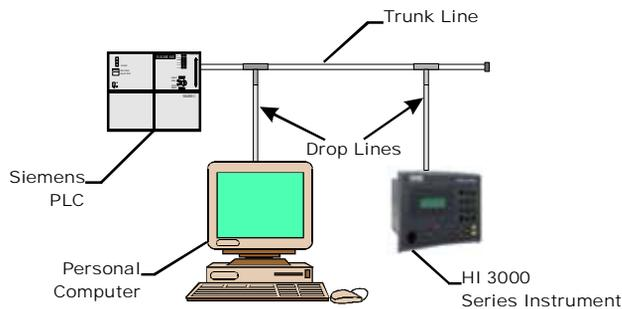

FIG. 161 SIMPLE PROFIBUS NETWORK WITH TRUNK AND DROP LINES
- Step 1. Connect the HI 4050 Series Instrument to the Profibus DP network and verify the address. (See Fig. 161) (Installation and Cabling Instructions are located in the Installation Section of this Manual)